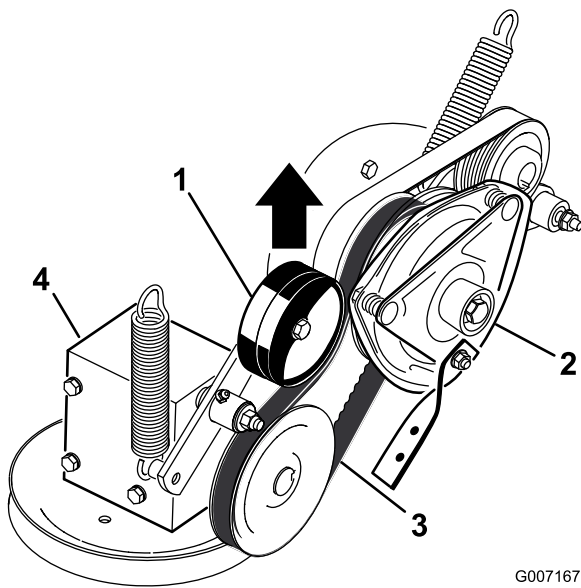

Figure 52
5. Pull up on the spring loaded idler pulley for the PTO drive belt and remove the belt from the clutch pulley (Figure 52).
17. Pull up on the spring loaded idler for the PTO drive belt and install it onto the clutch pulley (Figure 52).